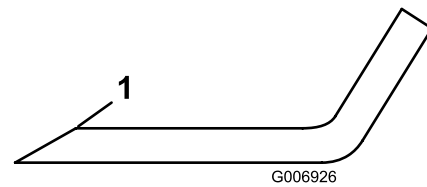

Figure 67
5. Inspect the cutting edges of all blades. Sharpen the cutting edges if they are dull or nicked. Sharpen only the top of the cutting edge and maintain the original cutting angle to make sure that it is sharp (Figure 67).
6. If dull or nicked, sharpen only the top cutting edge while maintaining the original cutting angle (Figure 67).